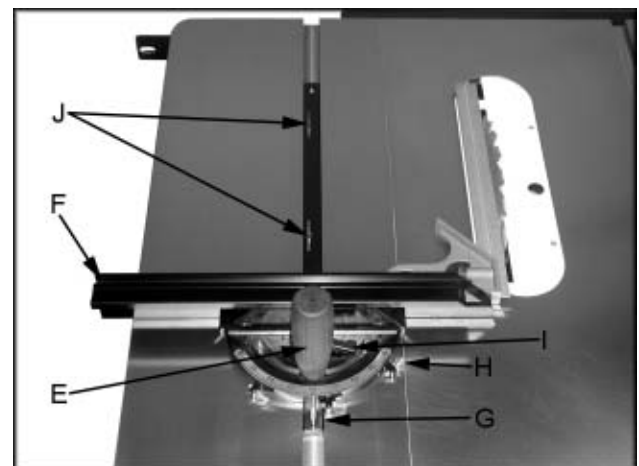

Fig. 11
4. You can adjust the play in the miter gauge by tightening the set screws (J, Fig. 11).
1. Change the angle on the miter gauge by loosening handle (E, Fig. 11) and turning the fence (F, Fig. 11) to desired angle. To move gauge beyond index stops of 45° and 90°, flip back the stop (G, Fig. 11).
2. Adjust index stops by turning one of three adjustment screws (H, Fig. 11). Use a square to verify that the fence is 90° to the saw blade, see Figure 11.
3. Slide fence to the left, or right by loosening handle (I, Fig. 11). Make sure fence does not interfere with the blade when cutting.